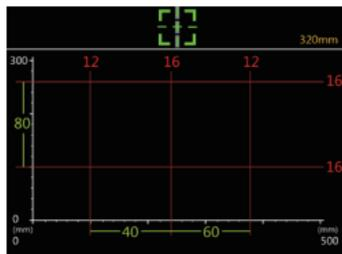

Fig. 2-21
When the grid is detected, the "grid level" scan (Figure 2-21) is performed first, and move the car slowly to measure. When the bar is detected, the thickness of the bar and space are displayed. After the scan, press (▲) to switch to "Grid vertical" direction and move the car in the vertical direction. When the scan is complete, press the (OK) key to save the component. During the scan process, press the (Fn) to clear the data of current component.